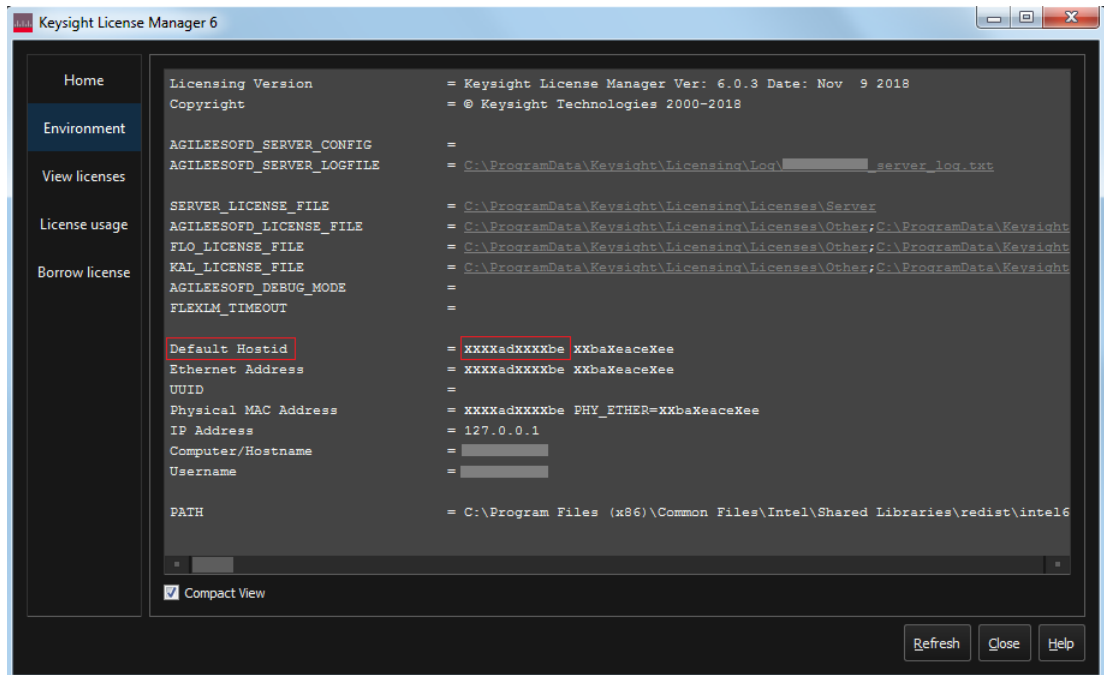

Figure 3 Viewing the Host ID information in Keysight License Manager 6
- 2 Copy the **Host ID**, which is the first set of alphanumeric value (as highlighted in **Figure 3**) that appears in the **Environment** tab of the application. Note that x indicates numeric values.